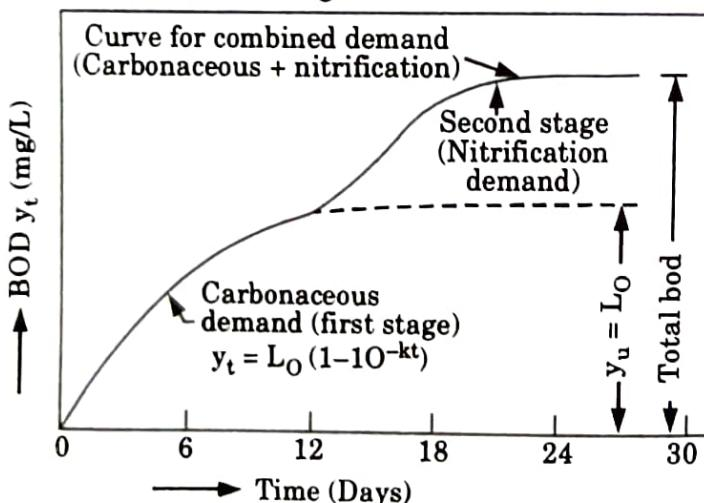

Fig. 3.7.1. Combined carbonaceous and nitrification demand.
- iv. Thus, the nitrogenous oxygen demand caused by the autotrophic bacteria is called second stage BOD. Fig. 3.7.1 shows the influence of nitrification on BOD curve.